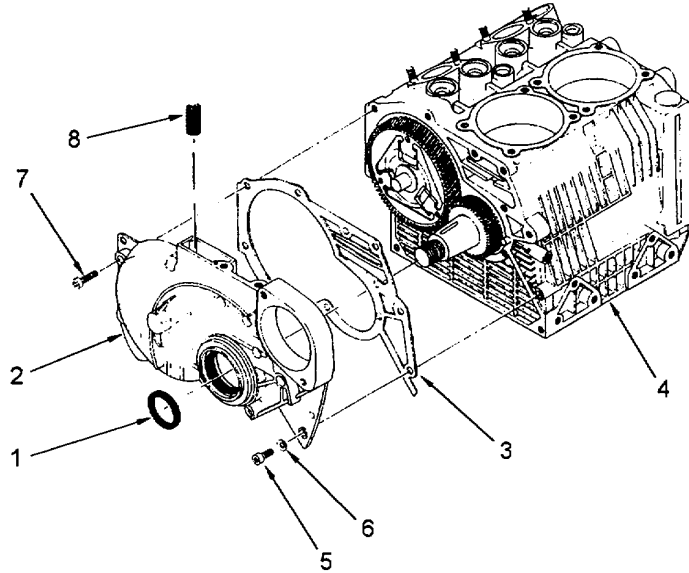

Figure 6-34. Timing Cover Installation
6.4.10 Install Timing (Pulley End) Cover. (Refer to figure 6-34.)